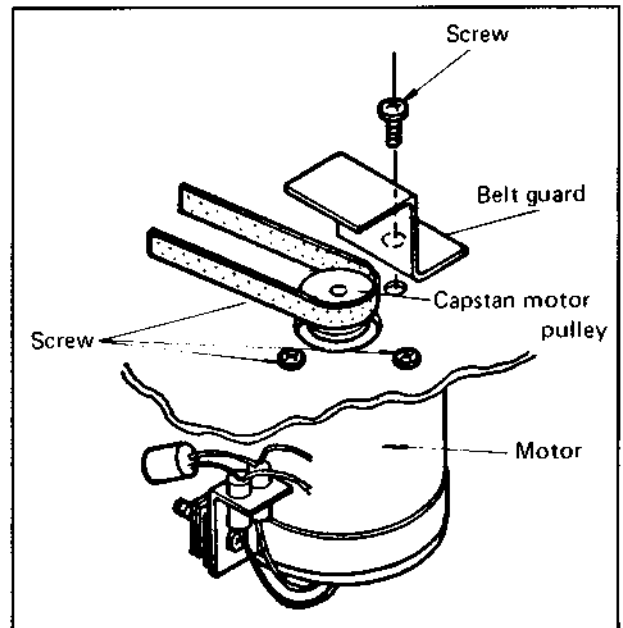

Fig. 4-21 Capstan motor replacement
1. Remove the four screws and belt guard from the chassis as shown in Fig. 4-21.